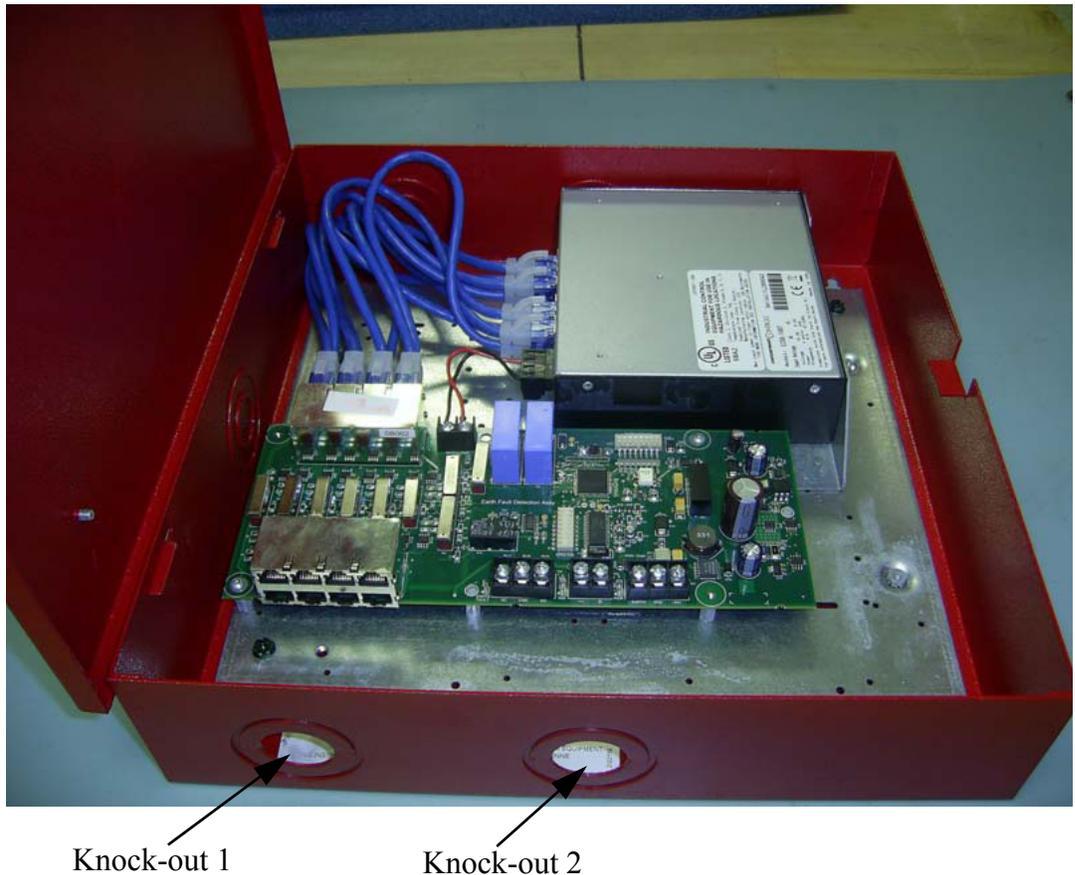

Figure 7-16 FAES Wall-Mount Enclosure
6. Mount the cabinet on the screws, using tear-drop holes to clear the screw heads. It should now be hanging in such a way that the knock-out holes (Figure 7-16) for the Ethernet jacks and other connectors are facing downward.